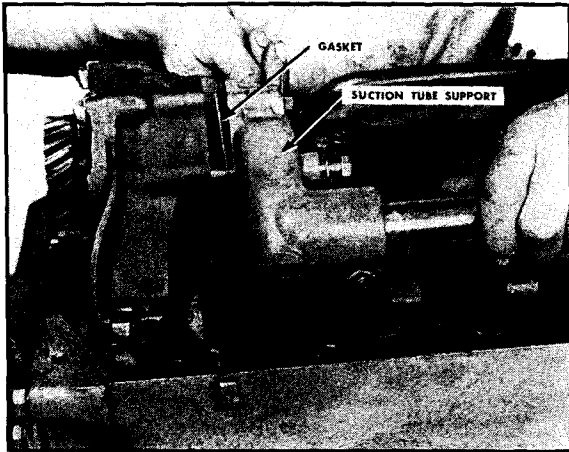

Fig. 12-69. Assembling suction tube to pump
1. Place the suction tube assembly in position on the cylinder block. Tighten the suction tube support, with gasket, to the lubricating oil pump. Fig. 12-69.